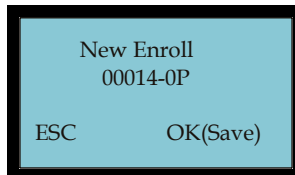

Figure 2-48 Save Password for User ID
8. Repeat the password entry to affirm, and display the User ID with a **"-0P"** (see **Figure 2-48**) to indicate that this User has 1 finger template ("0") and a password ("P")